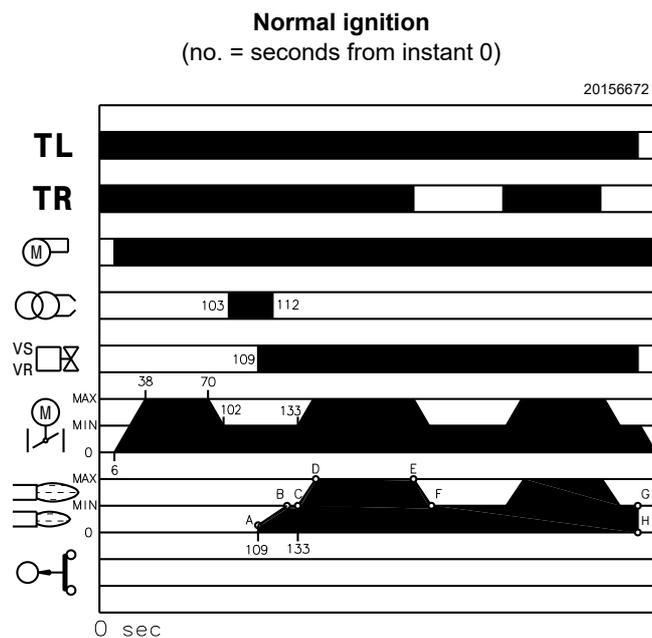

Fig. 41
- 109s** The VS safety valve and the VR adjustment valve open (rapid opening). The flame is ignited at a low output level, point A (Fig. 41). There follows a progressive increase of the input, slow opening of the valve, up to the MIN output, point B (Fig. 41).
Once the starting cycle is completed, the servomotor command moves on to the TR thermostat/pressure switch that controls the pressure or the temperature in the boiler, point C (Fig. 41). (The electrical control box continues to check the presence of the flame and the correct position of the air and gas maximum pressure switches).